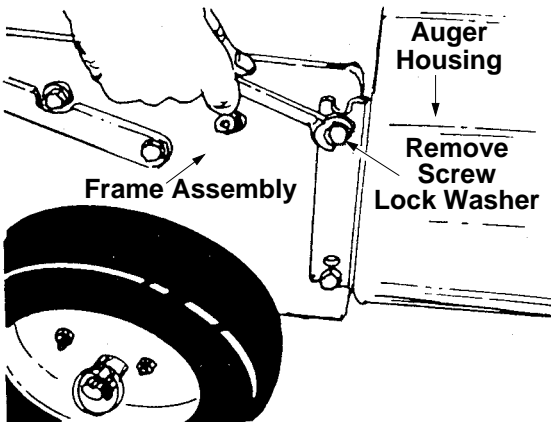

Figure 19
7. Remove the top screws and lock washers which attach the auger housing assembly to the frame assembly. A 9/16" wrench is required. Refer to Figure 19.